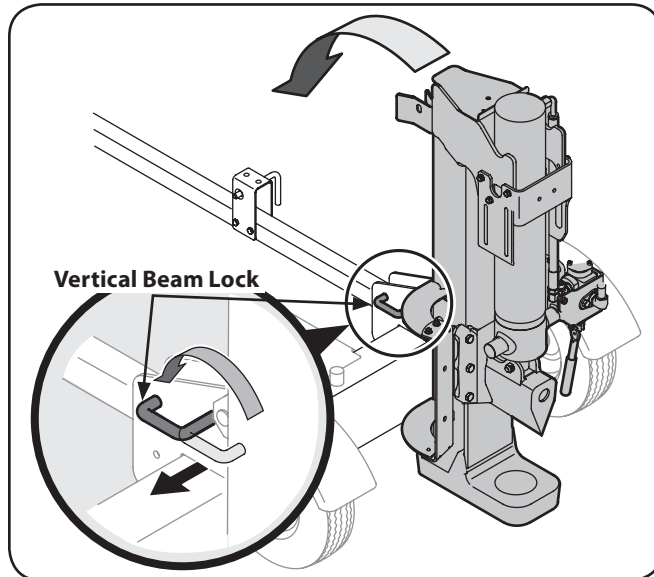

Figure 3-3
12. Pull out the vertical beam lock, rotate it back, and pivot the beam to the horizontal position until it locks being sure to avoid any possible pinch points. See Fig. 3-3.